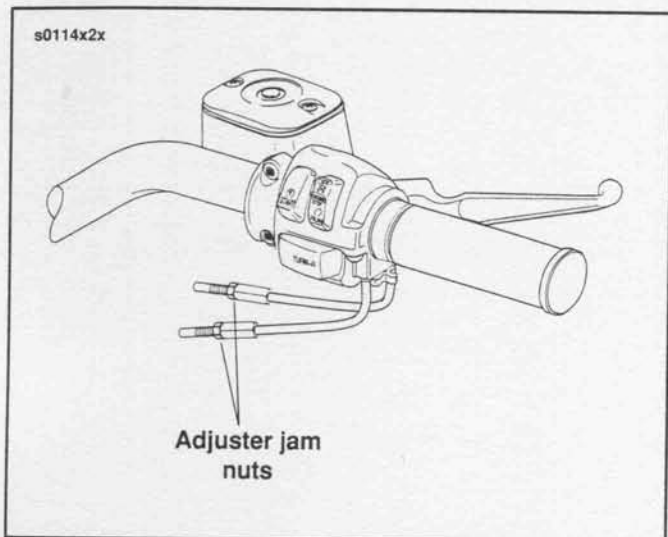

Figure 2-85. Handlebar Throttle Control
1. See Figure 2-85. Loosen cable adjuster jam nuts. Screw throttle cable adjuster until it is as short as possible. Remove the two screws that hold the handlebar housing together and separate the upper housing from the lower housing.